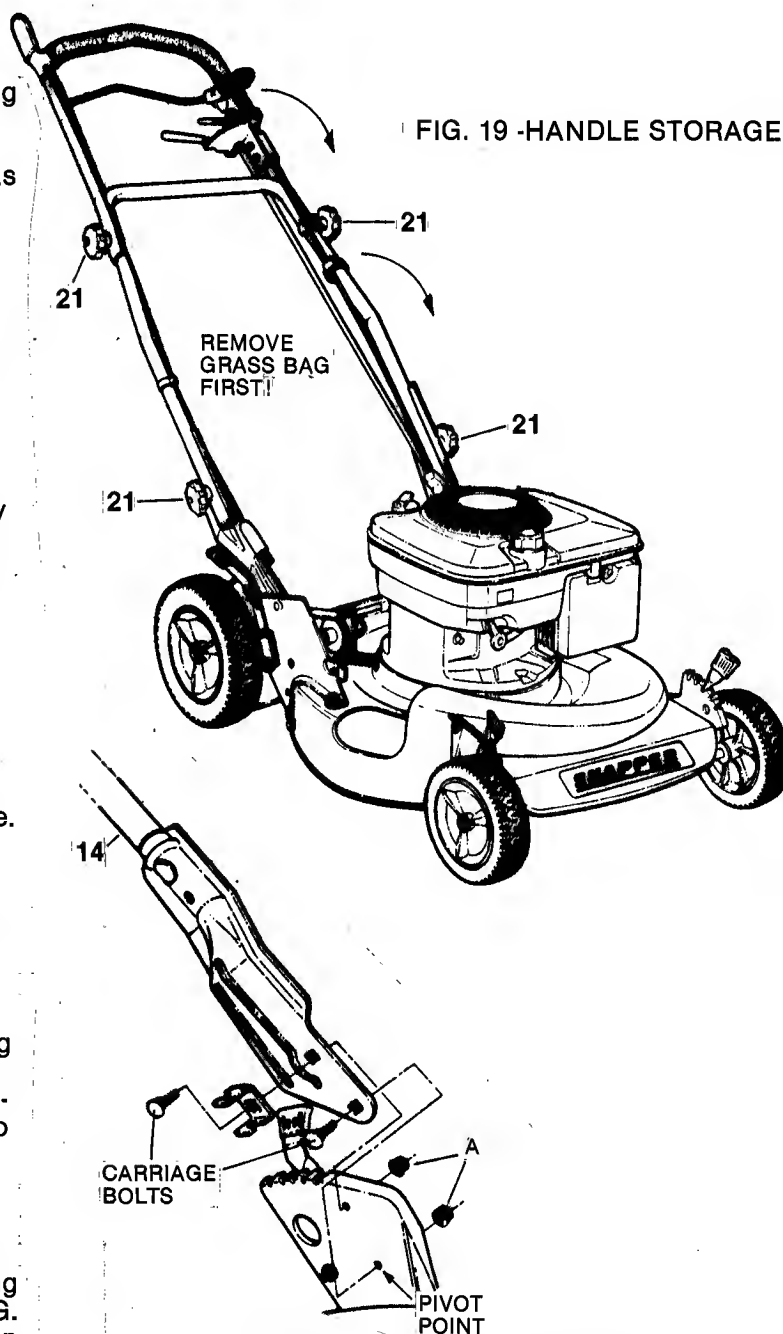

FIG. 20 -HEIGHT ADJUSTMENT.
To raise or lower handle (14), loosen the adjusting locknuts (A) on both sides of handle shown in FIG. 20. Re-set handle to desired position and re-tighten the locknuts.